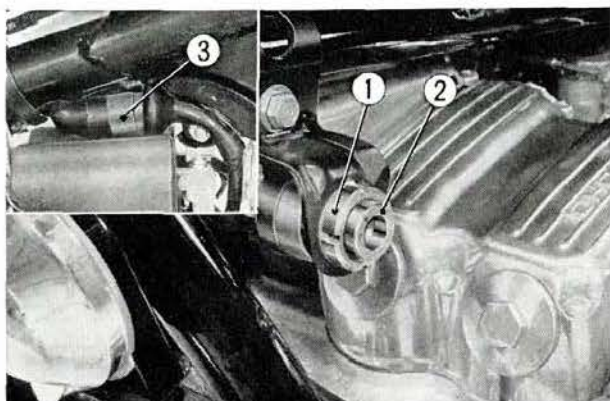

Fig. 1-3 ① Lock nut
1. Loosen the main ignition switch lock nut and remove the switch from the switch bracket. (**Fig. 1-3**)